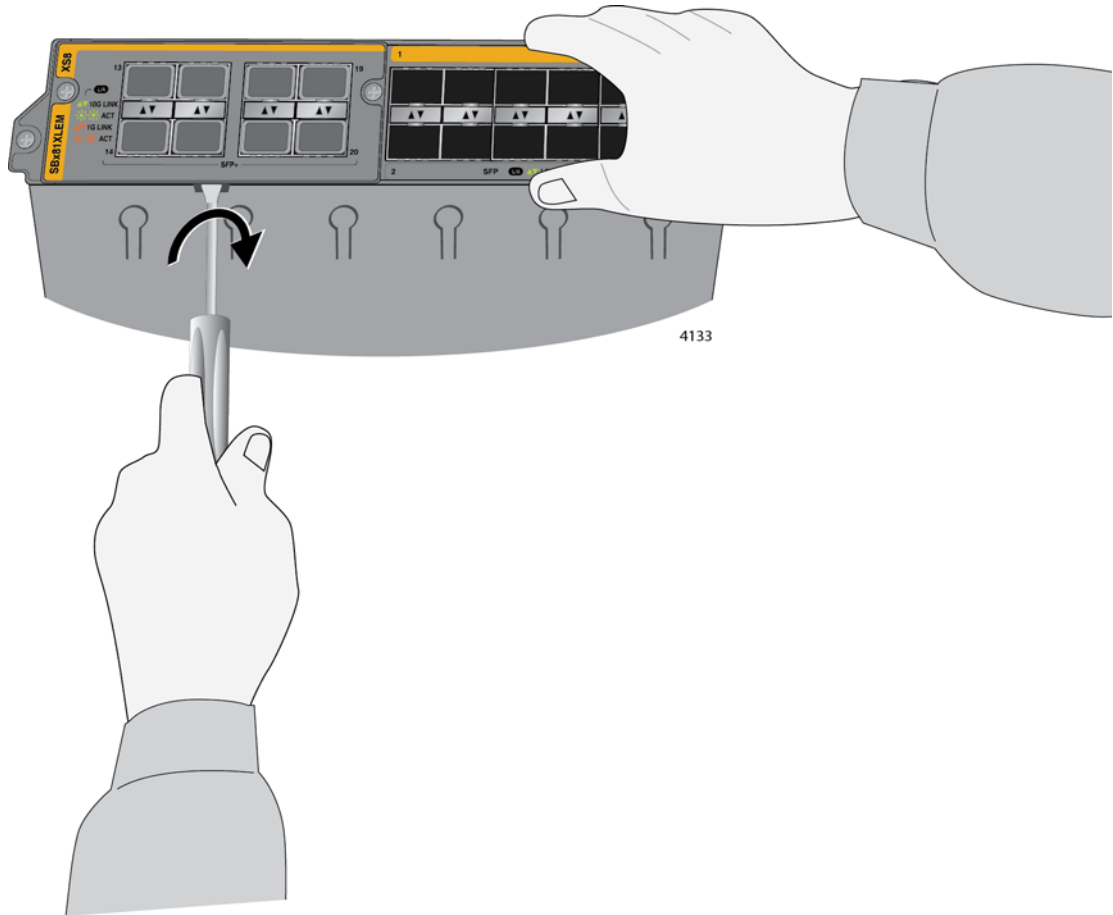

Figure 180. Disconnecting the Expansion Module from the AT-SBx81XLEM Line Card
5. Lift the front of the line card and carefully insert the tip of a flathead screwdriver into the slot beneath the expansion module on the bottom panel. Gently twist the screwdriver to disconnect the module from the connector in the line card. Refer to Figure 180.